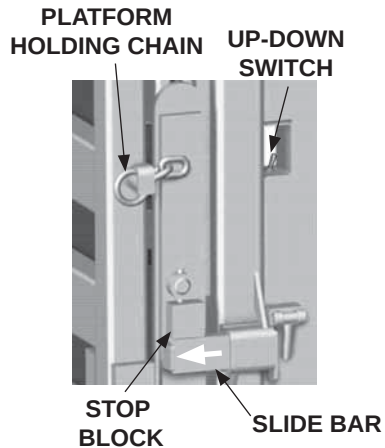

FIG. 28-2
4. Connect platform holding chain to folded platform (**FIG. 28-2**). Next move slide bar under stop block on runner (**FIG. 28-2**). Liftgate is ready for transport.